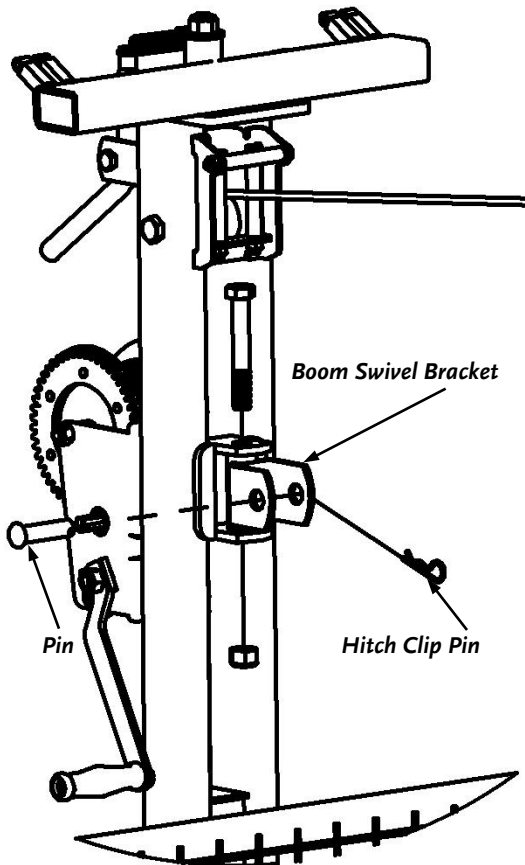

Figure 34
5. Reinstall the Boom Swivel Bracket and hardware, and then remove the Hitch Clip Pin and Pin from the Bracket (**Figure 34**).